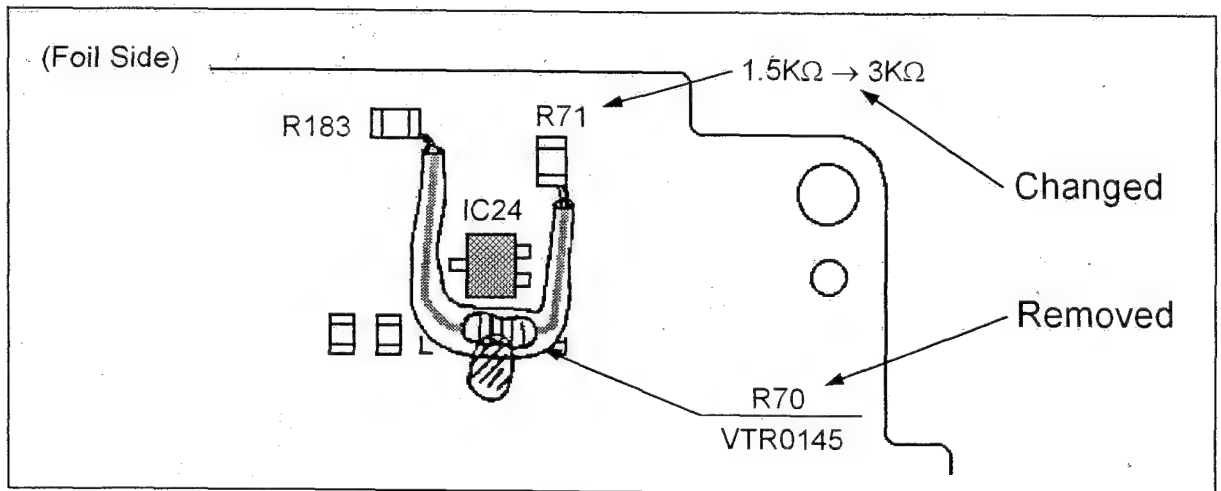

Fig. 1
- 1). Resistor R70 (VTR0145) is removed from the foil side as shown in figure 1.
- 2). Resistor R71 is changed from 1.5K Ω to 3K Ω on the foil side as shown in figures 1 and 2.